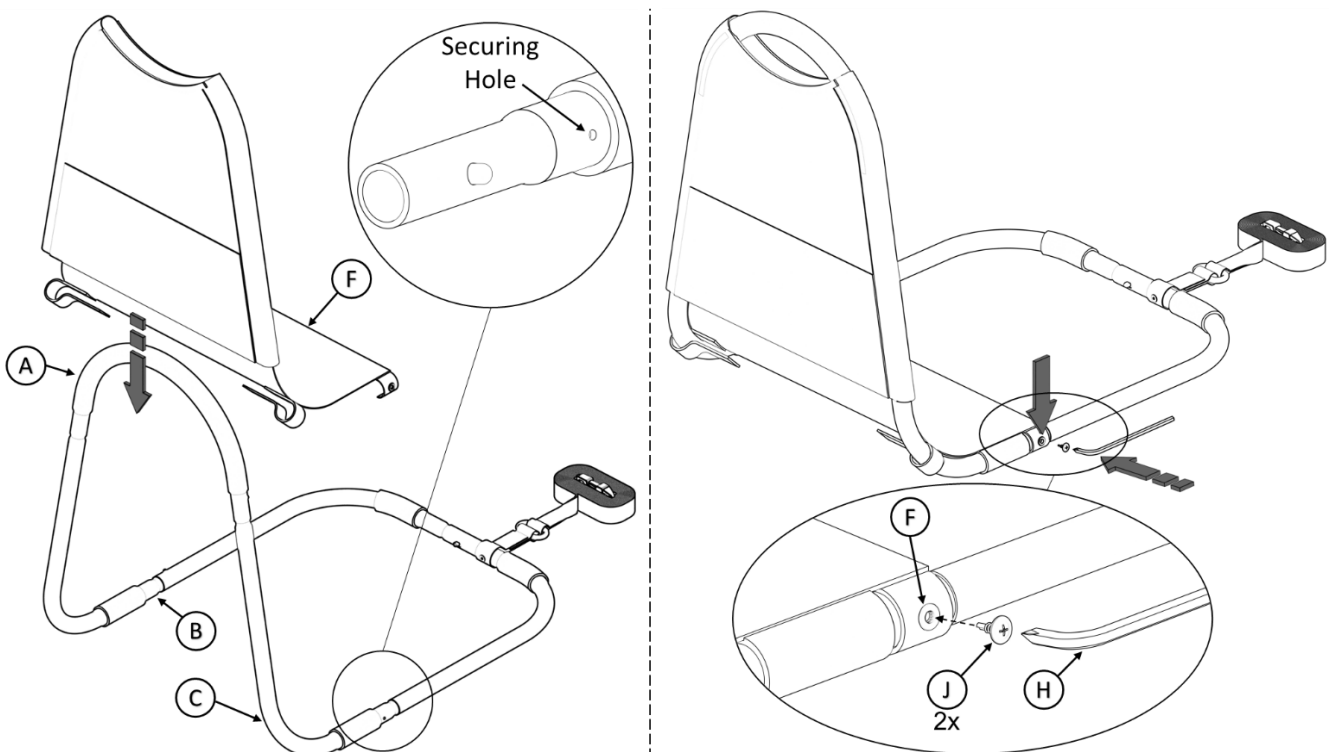

FIGURE 5
5. Place **F** over **A** as shown in *FIGURE 5*. Align the holes in **F** with the *Securing Holes* in **B** and **C**, secure with **J** using the tool provided (**H**) as shown. Secure Velcro Straps around **B** and **C**.